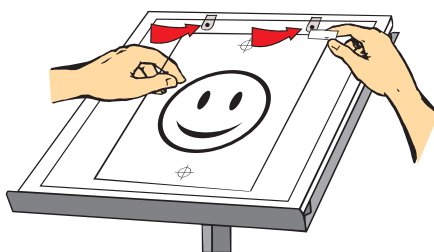

Figure 19: Attach a setup to the pins. Position the positive and tape it to the set-up sheet. Repeat this step for all positives.
1. Using the registration pins, attach a blank clear Mylar set-up sheet to the pin board. (See Figure 19) This is also called a carrier sheet.